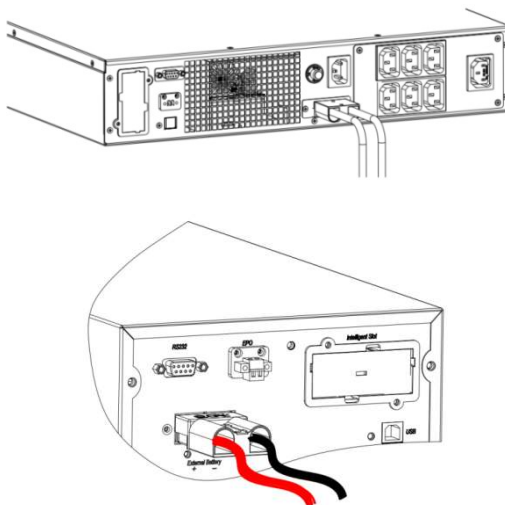

Fig.4-7 Battery terminal connection
3. Plug the Anderson terminal to UPS as Fig.4-7